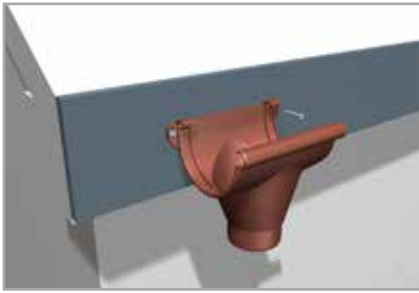

Fig. 4
- 1.9 In the Galeco PVC system, the outlet and connectors are rigidly mounted to the fascia board using special brackets (or using a rafter board support), which stabilizes the system and makes the gutter the only flexible element **(Fig. 4)**